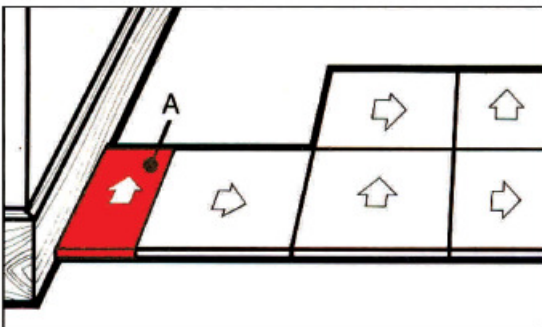

Fig 9
2.12 Using the edge of the tile “**B**”, mark or score a line on tile **(A)**. Cut tile **(A)** along the mark and install as the border tile. **Refer to Fig 9.**